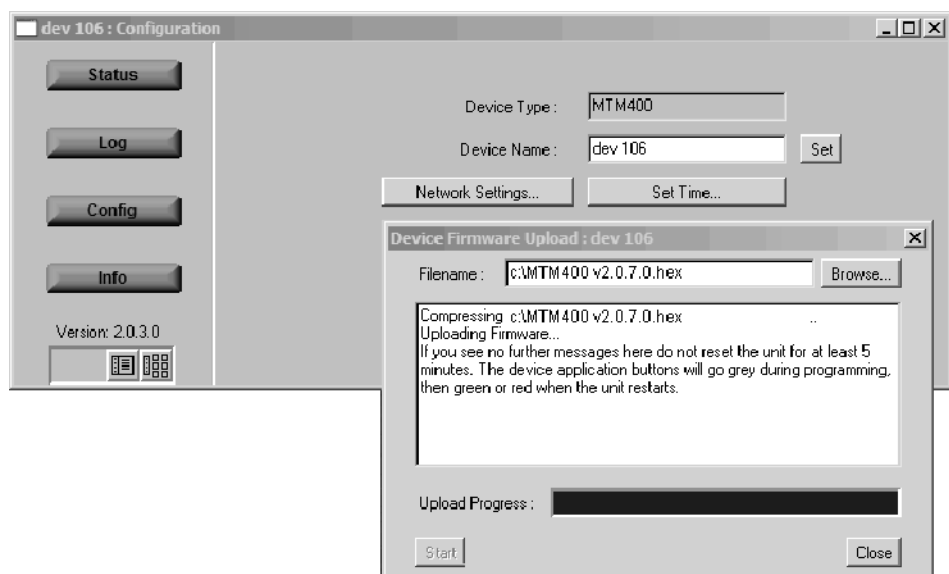

Figure 13: Completing the MTM400 firmware upload
- When all four buttons in the Device view have been active for more than 20 seconds (colored red, green, or yellow), and the progress bar in the Device Firmware Upload dialog is full as shown in Figure 13, the firmware is successfully loaded.